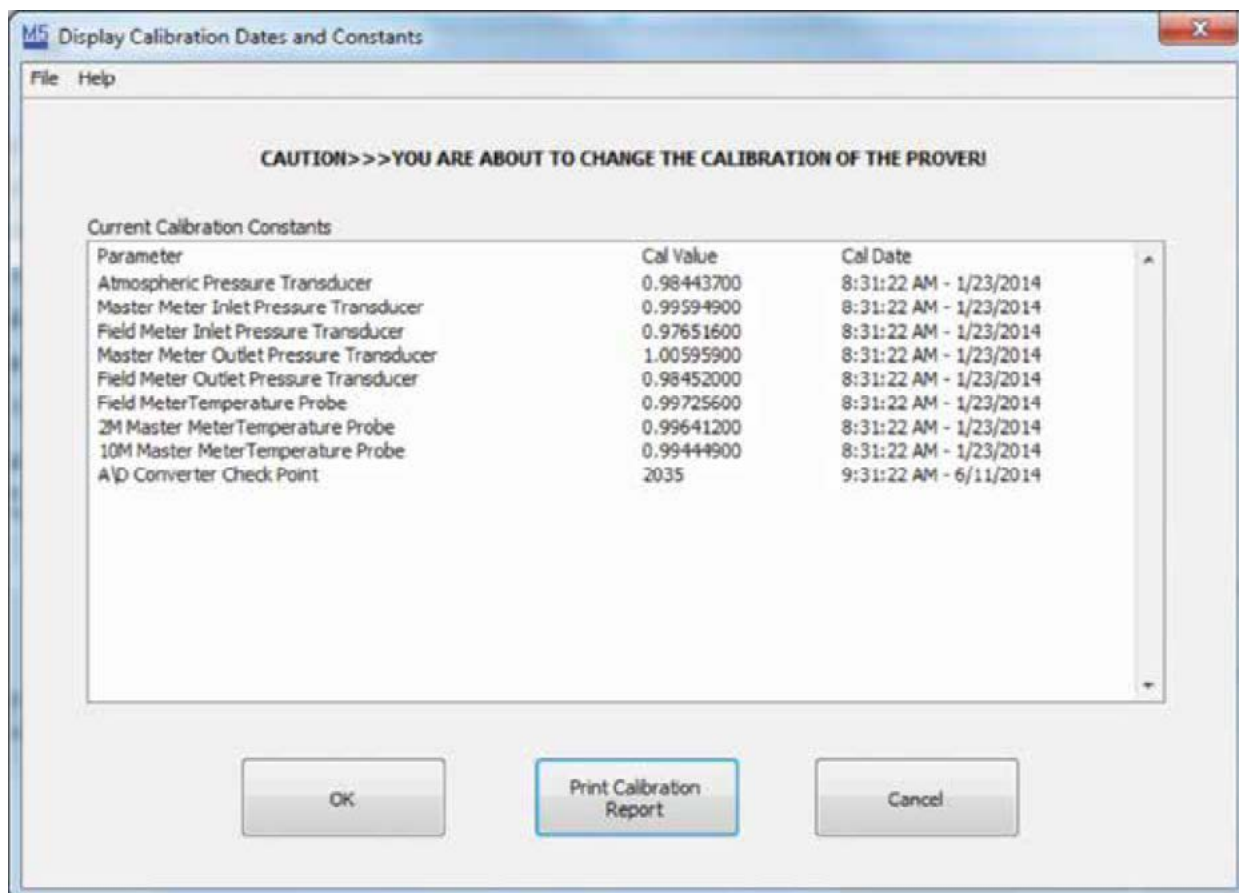

Figure 27: Calibration Warning Window
7. A third window will appear as shown in Figure 27. It will warn the user with the following message, "Caution, you are about to change the calibration of your Prover". Click "OK".